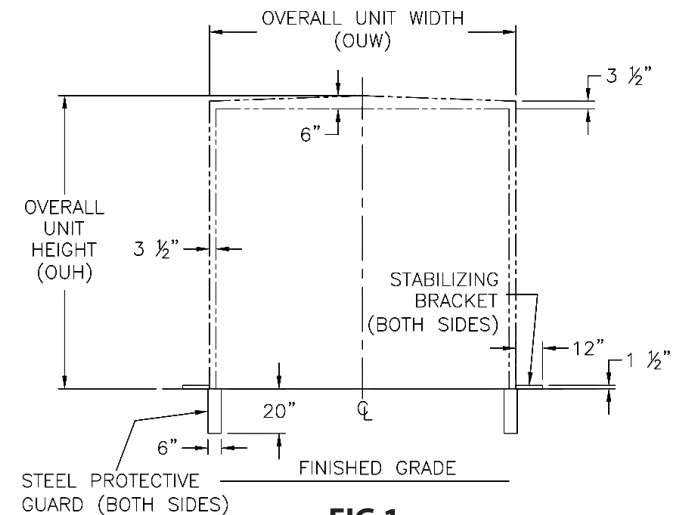

FIG 1
- Make sure there is enough space to install shelter (Figure 1 -Standard Unit).